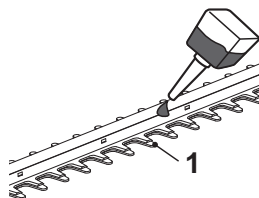

Fig. 10
10. Lubricate the internal surfaces of the blade if the cutting device (blade) (1) overheats during operation (Fig. 10).
1. Keep the cutting device (blade) (1) clean and free of debris. Remove trimmings with a brush.
2. Apply a small amount of suitable lubricant on the cutting device (blade) to retain a good cutting performance (Fig. 10).